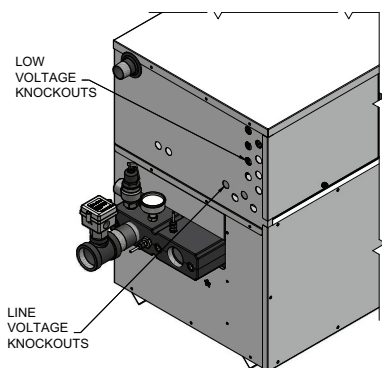

Figure 5-3\_Routing Field Wiring
1. Route all low voltage wires through the knockouts on the left side of the heater, as shown in FIG. 5-3.